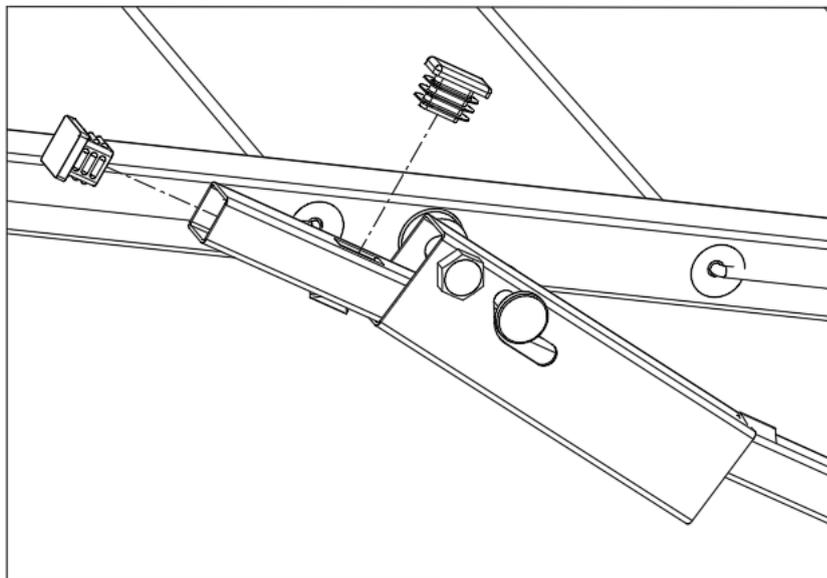

Fig 4. Plastic plugs to front and top of stay.
11. Install plastic plugs to back of the arms and to the top and front end of stays. (Figs 4 and 5)
12. Install plastic plugs to back of the arms and to the top and front end of stays. (Figs 4 and 5)